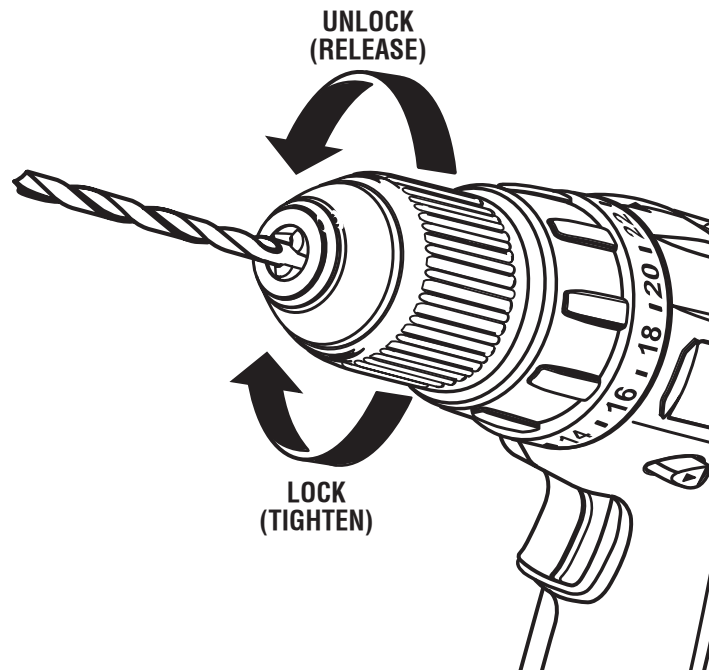

Fig. 8
See Figure 8.
- Insert drill bit straight into chuck the full length of the jaws as shown in Figure 8.